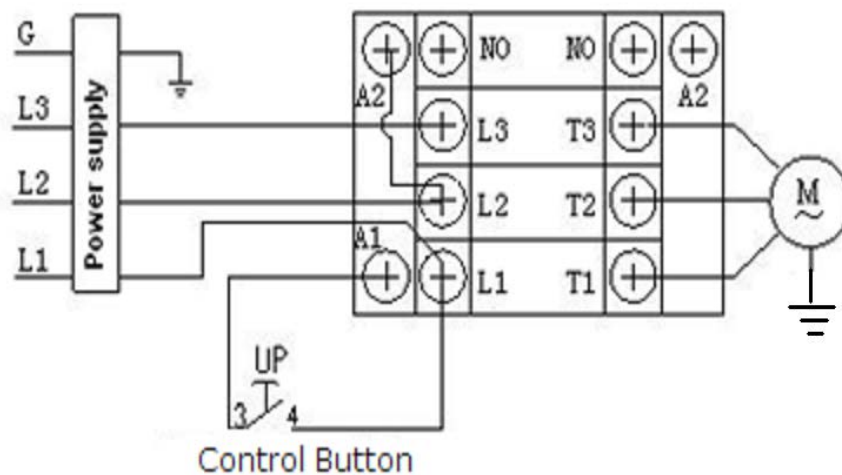

Fig. 34
2.3. Connection diagram (See Fig. 34).